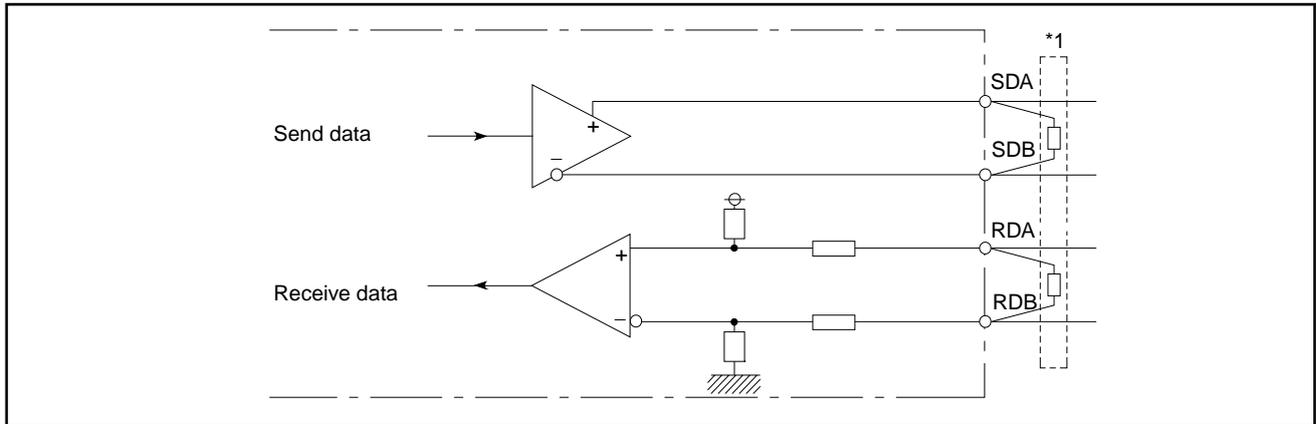

Fig. 3.4 Interface Function Block Diagram
(2) The function block diagrams are shown in Figs. 3.4 and 3.5.